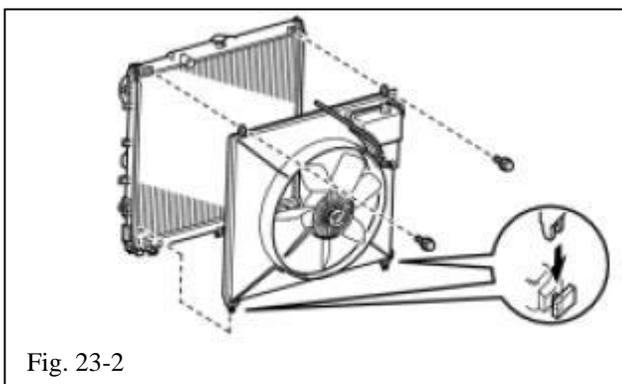

Fig. 23-2
(d) Lower the fan and shroud together. Clip the fan shroud into the lower radiator mounting tabs (Fig. 23-2).
- (f) Use the 2 OE bolts to install the fan shroud (Fig. 23-2).
- (1) The radiator side of this hose should have been marked during removal in Step 10(a)(1).
- (2) The marked side will now attach to the coolant crossover manifold and the other (unmarked) side to the radiator.
- (3) Use the OE spring clamps to secure it.